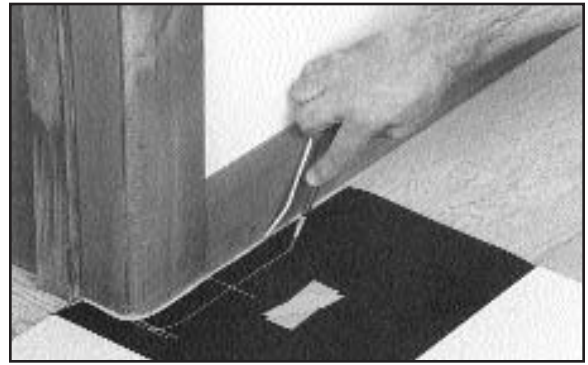

Fig. 11.
3. Scribe the felt with dividers and extend reference lines (Figure 11).